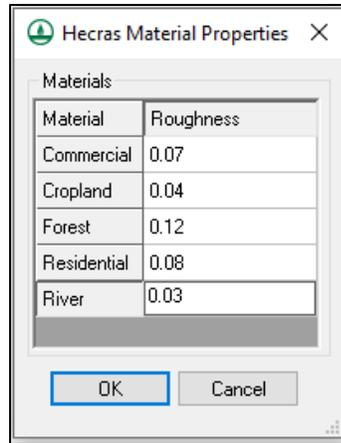

Figure 5 HEC-RAS Material Properties dialog
5. Enter the following roughness values for each material (See also Figure 5).